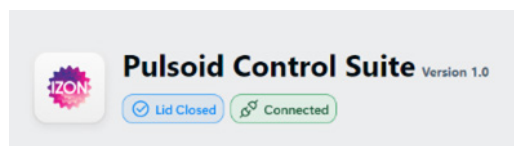

Figure 4. Instrument status reporting in the PCS.
9. Check that the instrument status shows as 'Connected' in the top left corner of the PCS (Figure 4).